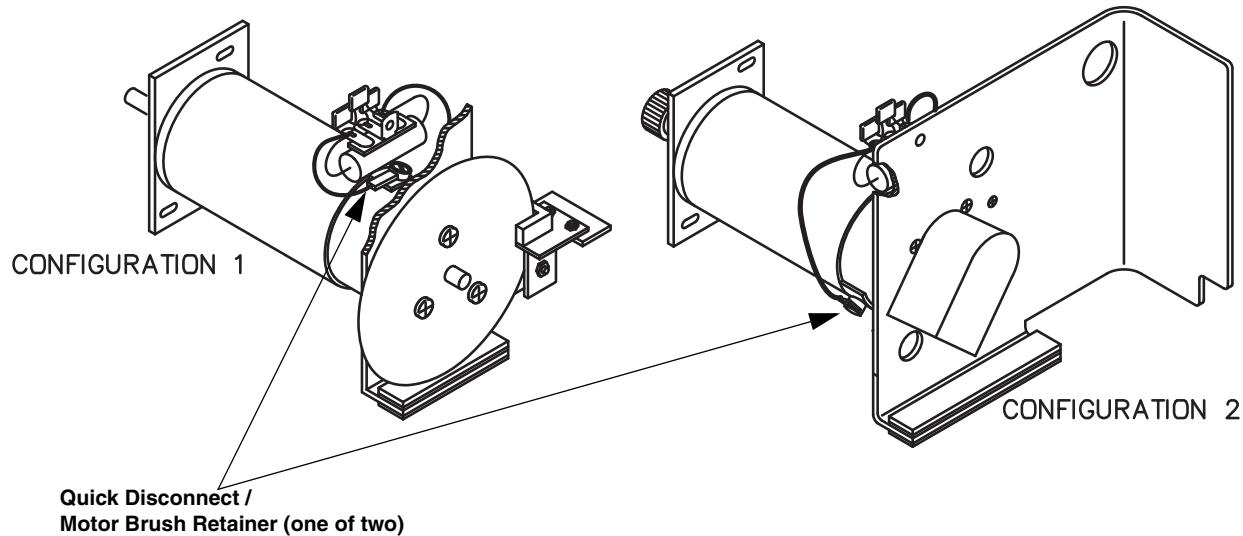

Figure 5-7 D Series motor brush replacement
2. Locate the upper brush, Figure 5-7 (Configuration 1 or 2, depending on your pump motor type).